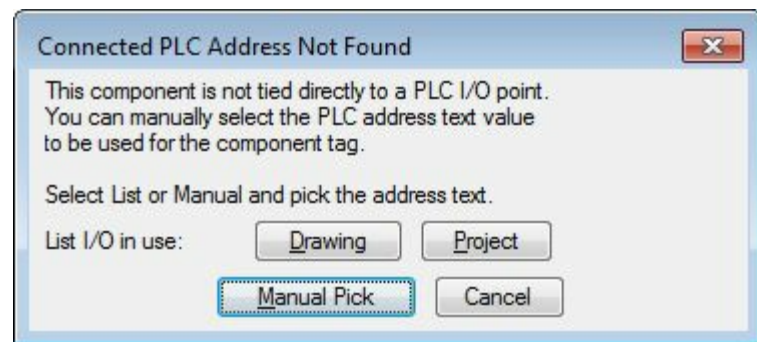

*Figure-4. Insert Edit Component dialog box*
- Click in the drawing area to place the component symbol at desired place. The **Insert/Edit Component** dialog box will be displayed; refer to Figure-4.